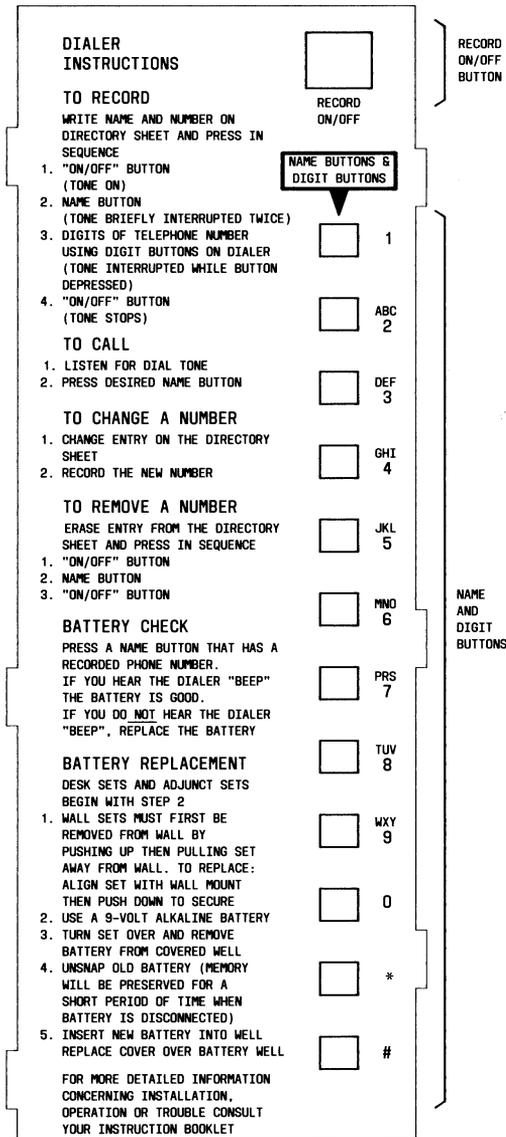

Fig. 4—Instruction Label
5.02 The battery is to be replaced by the customer. Refer to instruction label (Fig. 4) or Customer Instruction Booklet (CIB-2506) for detailed testing and replacement procedures.